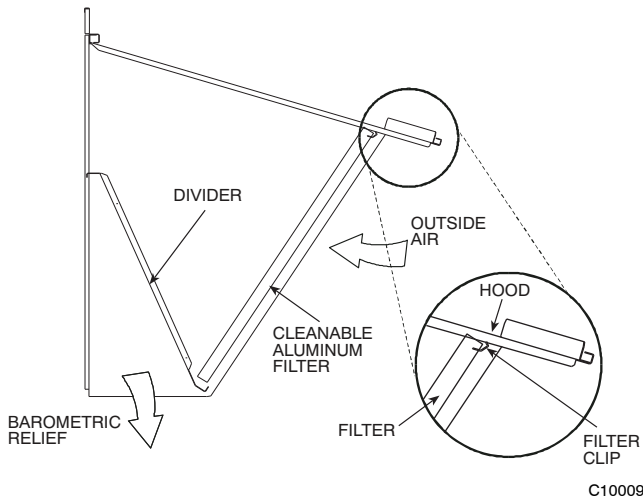

Fig. 16 - Economizer Filter Installation
- Open the filter clips which are located underneath the hood top. Insert the aluminum filters into the bottom filter rack (hood divider). Push the filter into position past the open filter clips. Close the filter clips to lock the filters into place. See Fig. 16.